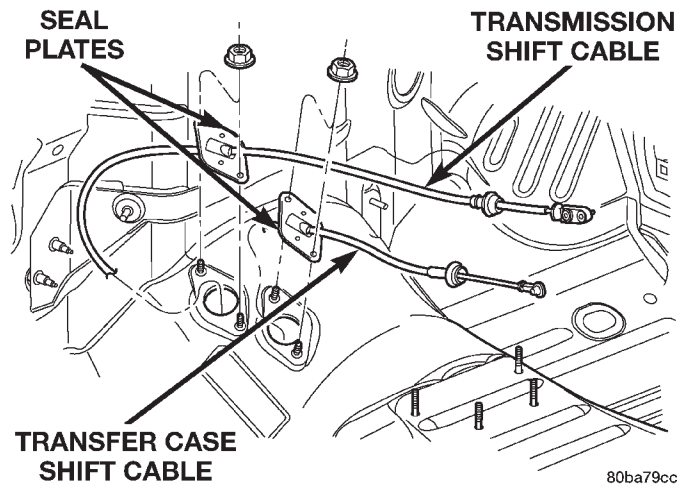

Fig. 26 Shift Cables at Floor Pan
- (8) Remove the nuts holding the shift cable seal plate to the floor pan (Fig. 26).
- (9) Pull cable through floor panel opening.